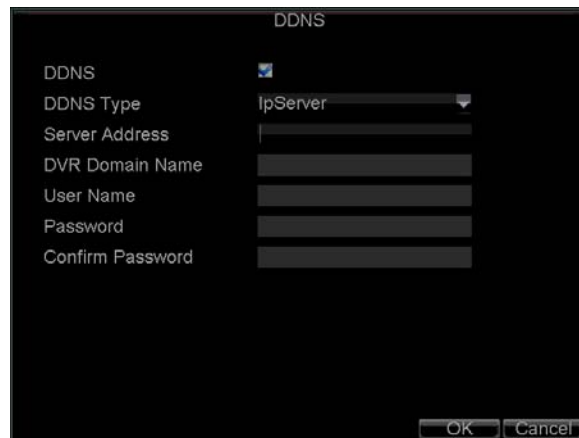

Figure 6. DDNS Settings Menu
3. Select the *Set* button next to **DDNS** to enter the DDNS settings menu, shown in Figure 6.
- **IpServer**: Enter **Server Address** for IpServer. Refer to Figure6.